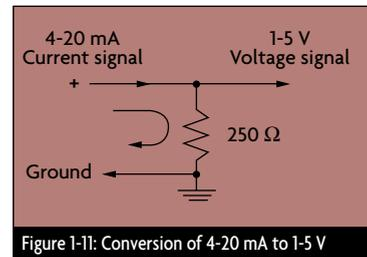

Figure 1-11: Conversion of 4-20 mA to 1-5 V
- **Current-to-voltage conversion:** A 4-20 mA current signal can be readily converted to a voltage signal using a simple resistor (Figure 1-11). A resistor value of 250 ohms will yield a 1-5 V output.